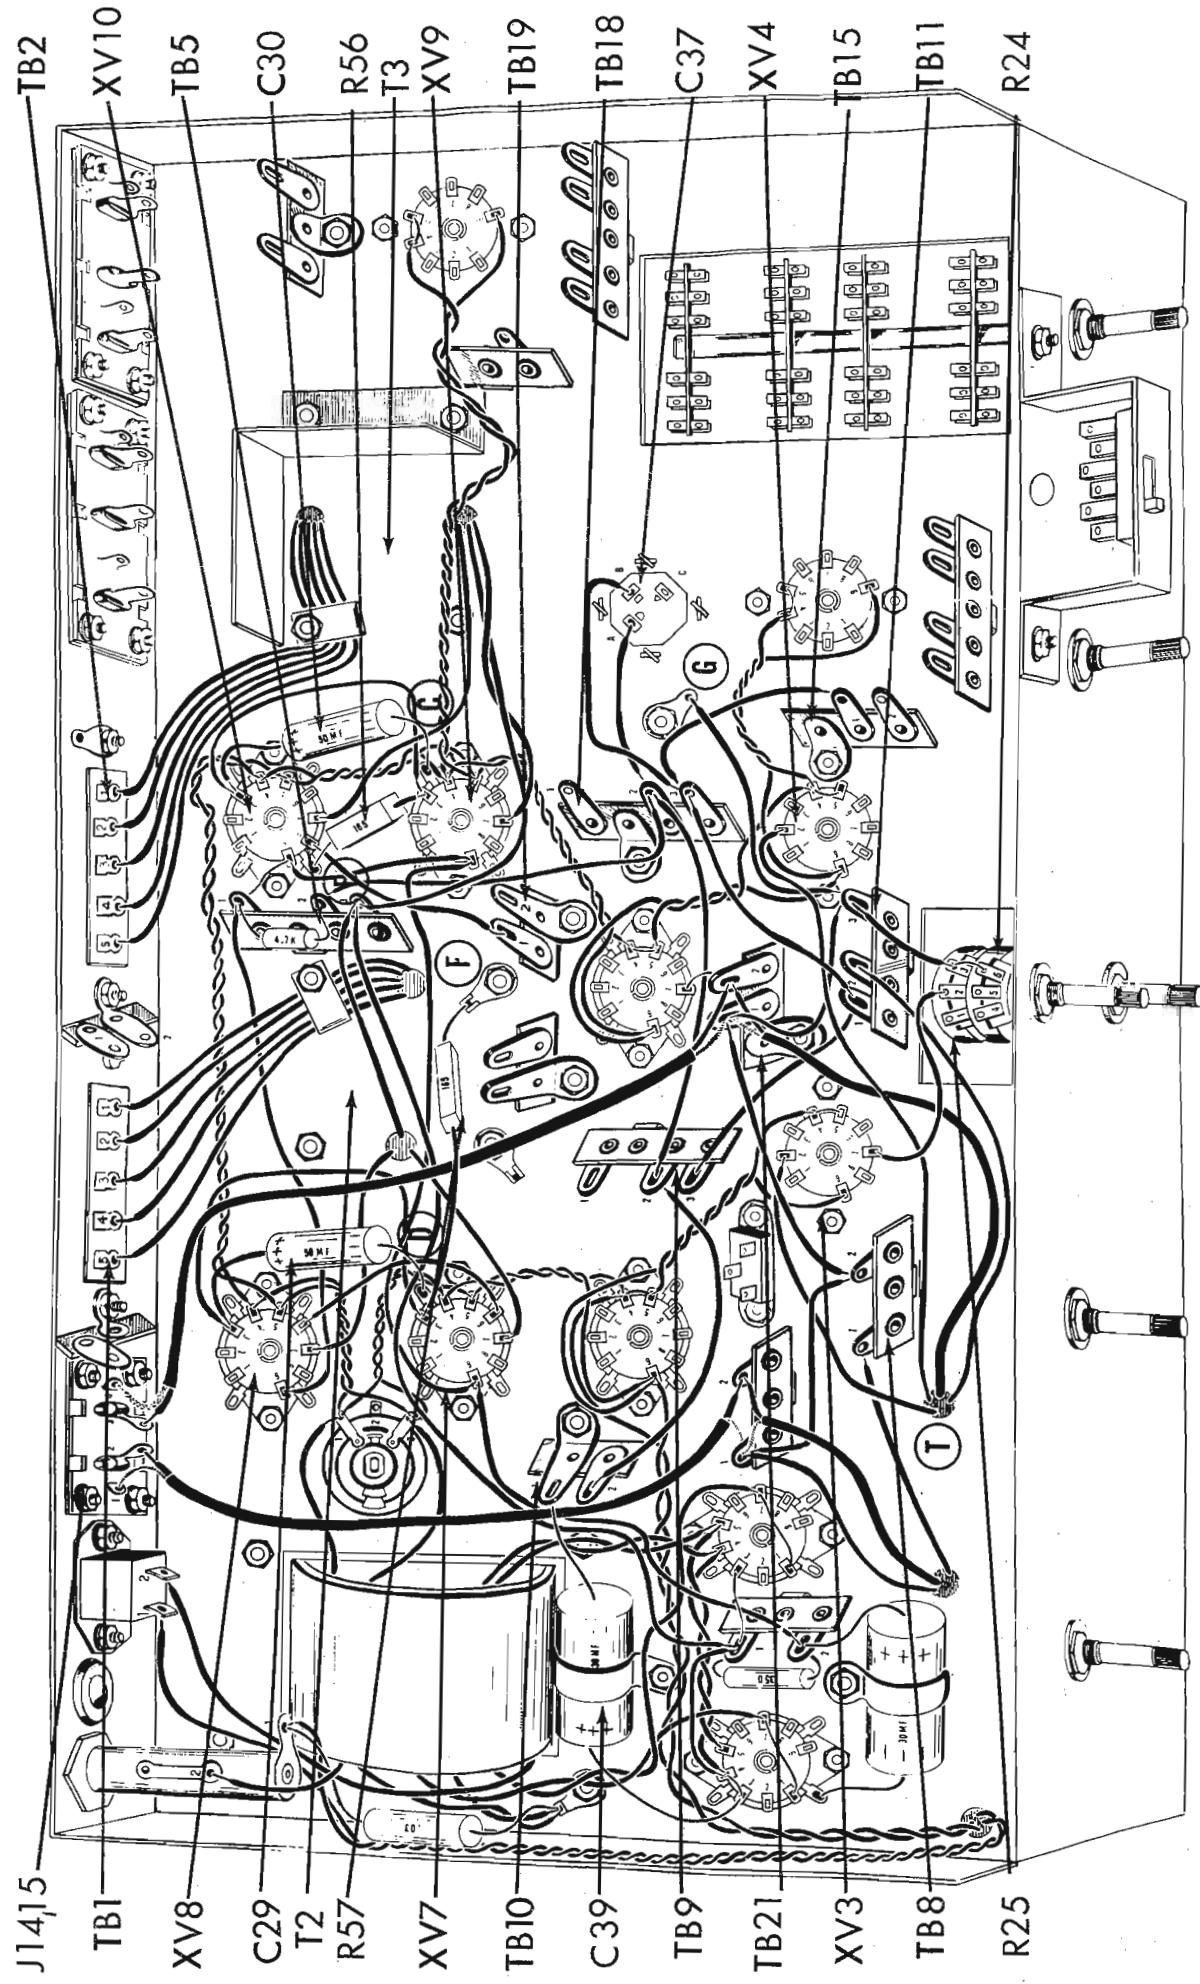

Fig. 8
1. (✓) Fig. 8. Cut the negative (-) lead on the 30 mfd electrolytic capacitor, C39, to 1 1/4". Connect to TB10-1 (C).
2. (✓) Fig. 8. From the output transformer, T2, connect the yellow lead to TB1-4 (C), the green lead to TB1-3 (S1), the brown lead to TB1-2 (S1), the black lead to TB1-1 (C), the red lead to TB5-3 (C), the blue lead to XV7-7 (S1), the brown-yellow lead to XV8-7 (S1), and the orange lead to TB1-5 (S1).
3. (✓) Fig. 8. Connect a 3 1/2" piece of green wire from XV7-6 (C) to XV8-6 (C).
4. (✓) Fig. 8. Connect a 3 1/2" piece of green wire from XV10-8 (C) to TB19-1 (C).
5. (✓) Fig. 8. Cut all leads on two 50 mfd, 25 V, electrolytic capacitors, C29, and C30, to 1". Cover the positive (+) leads on both capacitors with a 3/4" piece of spaghetti. Connect the positive lead of one capacitor to XV10-3 (S2) and the negative (-) lead to ground lug "C" (S1) at XV9. Connect the positive (+) lead of the second capacitor to XV8-3 (S2) and the negative (-) lead to ground lug "D" (S1) at XV7.
6. (✓) Fig. 8. Cut both leads on a 165 Ω, 5 watt resistor, R56, to 3/4". Cover one lead with a 1/2" piece of spaghetti and connect XV9-3 (S2). Connect the other lead to ground lug "E" (S1) at XV10. Dress resistor away from surrounding wires.
7. (✓) Fig. 8. From the output transformer, T3, connect the yellow lead to TB2-4 (C), the green lead to TB2-3 (S1), the brown lead to TB2-2 (S1), the black lead to TB2-1 (C), the red lead to TB5-3 (S3), the blue lead to XV9-7 (S1), the brown-yellow lead to XV10-7 (S1) and the orange lead to TB2-5 (S1).
8. (✓) Fig. 8. Connect the brown lead from hole "T" to TB11-2 (C).
9. (✓) Fig. 8. Connect a 2 1/2" piece of red wire from TB9-3 (C) to TB11-1 (C).
10. (✓) Fig. 8. Connect the outer shield from the single conductor cable (from hole "T") to TB21-1 (C) and the inner conductor to TB21-2 (C).
11. (✓) Fig. 8. Connect a 3 1/2" piece of orange wire from TB9-2 (C) to TB18-2 (C).
12. (✓) Fig. 8. Strip back the outer insulation 3/4" from one end of an 8"
13. (✓) Fig. 8. Cut one lead on the 165 Ω, 5 watt resistor, R57, to 1 1/2" and cover with a 1 1/4" piece of spaghetti. Connect this lead to XV7-3 (S2). Cut the other lead to 1/2" and connect to ground lug "F" (S1). Dress away from the surrounding wires.
14. (✓) Fig. 8. Connect a 3 1/2" piece of black wire from TB8-2 (C) to TB21-1 (C).
15. (✓) Fig. 8. Connect a 3" piece of black wire from TB21-1 (C) to TB11-3 (C).
16. (✓) Fig. 8. Connect a 3 1/2" piece of black wire from TB11-3 (C) to ground lug "G" (C).
17. (✓) Fig. 8. Connect the grey lead from hole "T" to XV4-2 (S1).
18. (✓) Fig. 8. Connect a 4" piece of orange wire from TB10-2 (C) to TB9-2 (C).
19. (✓) Fig. 8. Connect a 3 1/2" piece of red wire from TB11-1 (C) to TB18-3 (C).
20. (✓) Fig. 8. Connect a 4 1/2" piece of red wire from TB18-3(C) to C37-B (C).
21. (✓) Fig. 8. Connect a 3" piece of red wire from TB18-3 (C) to TB15-1 (C).
22. (✓) Fig. 8. Connect a 3 1/2" piece of orange wire from TB18-2 (C) to C37-A (C).
23. (✓) Fig. 8. Connect a 1" piece of bare wire to the dual concentric pots in the rectangular hole at the middle-front of the chassis. Connect from R24-6 (S1) to R25-3 (C).
24. (✓) Fig. 8. Connect a 2" piece of black wire from R25-3 (S2) to TB11-3 (C).
25. (✓) Fig. 8. Connect a 1 3/4" piece of green wire from R25-2 (S1) to XV3-7 (S1).